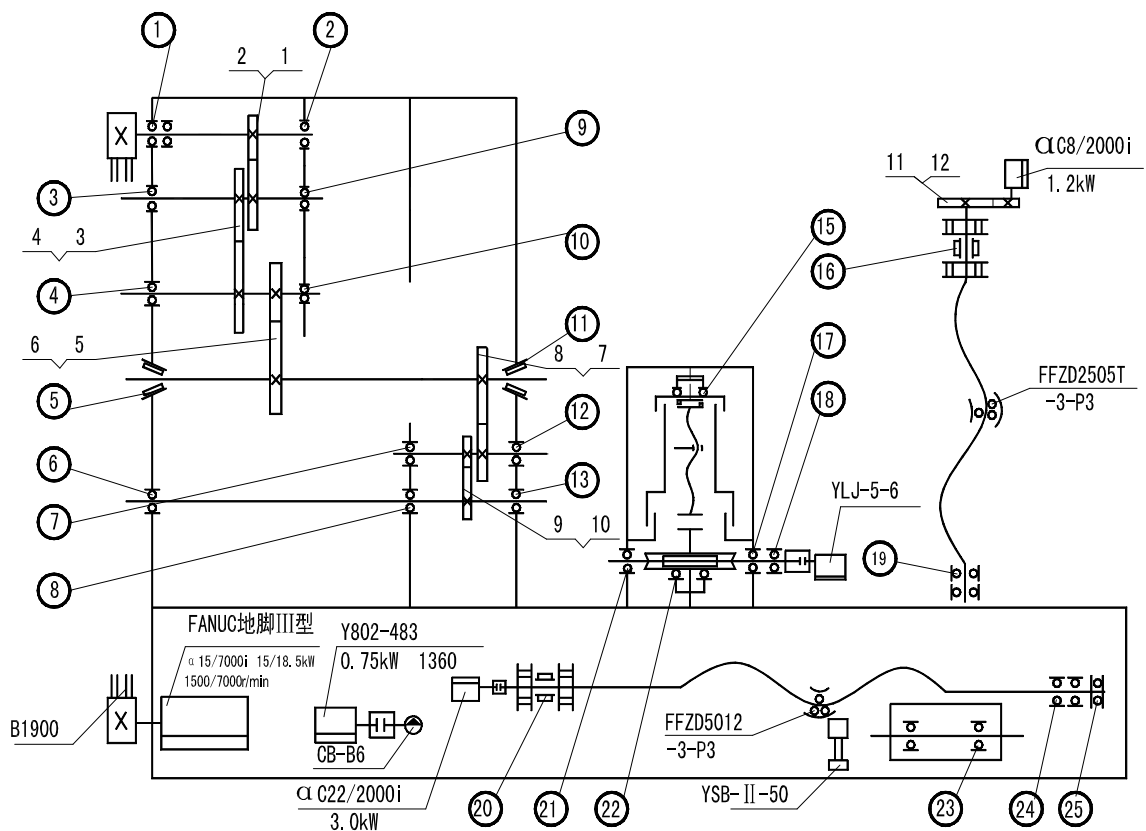

Fig. 4 Schematic drawing of transmission system with main servo motor of the machine
- In order to eliminate the clearance between the two gears during feeding the machine is provided with a mechanism for eliminating clearance (shown as Fig. 4). If you want to shorten the clearance, you may first loose the locking nut 46, then three fixing screws 47, thus, the two gears can rotate in different direction under force action from the spring 48 to make the clearance be shortened, then, retighten the screws.